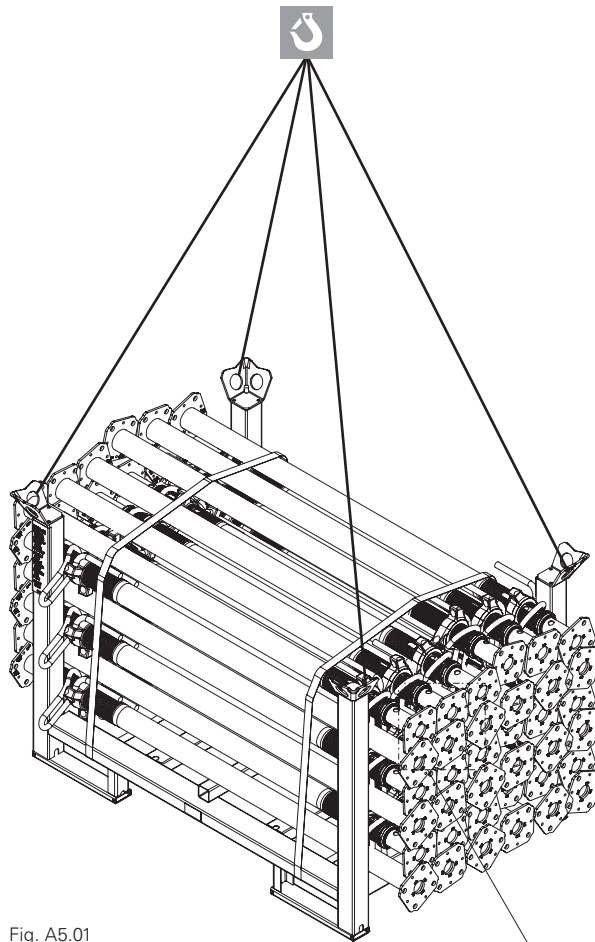

Fig. A5.01
- Ensure Slab Props of the same size are stored and transported in one Pallet RP. (Fig. A5.01)